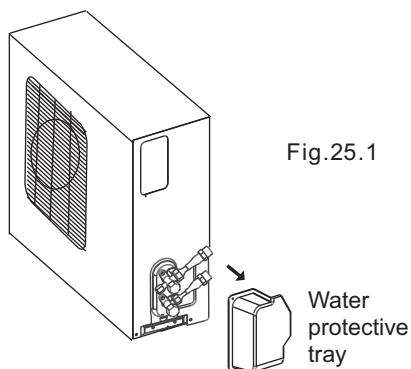

Fig.25.1
1. First remove the water tray on the outdoor unit as shown in Fig.25.1.